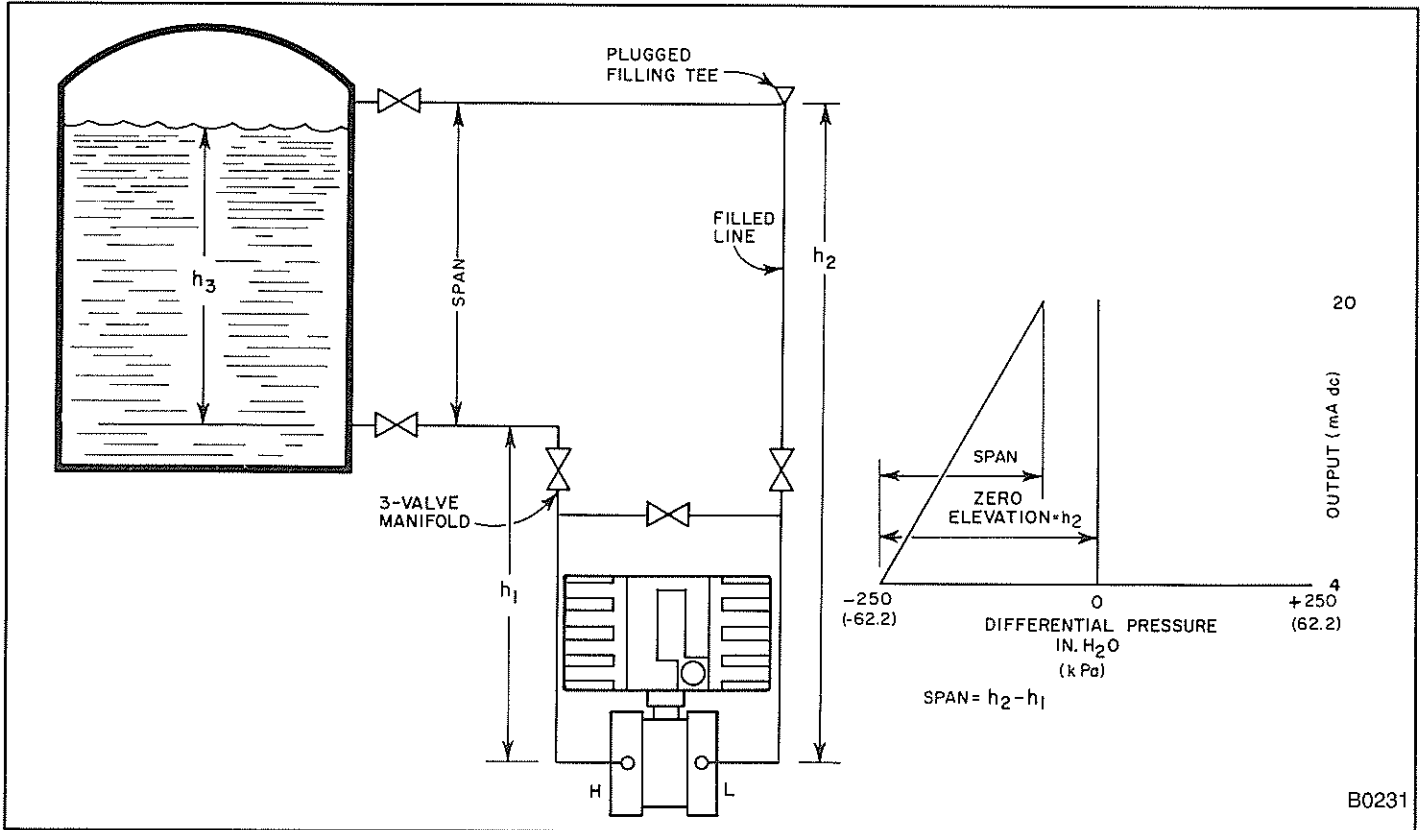
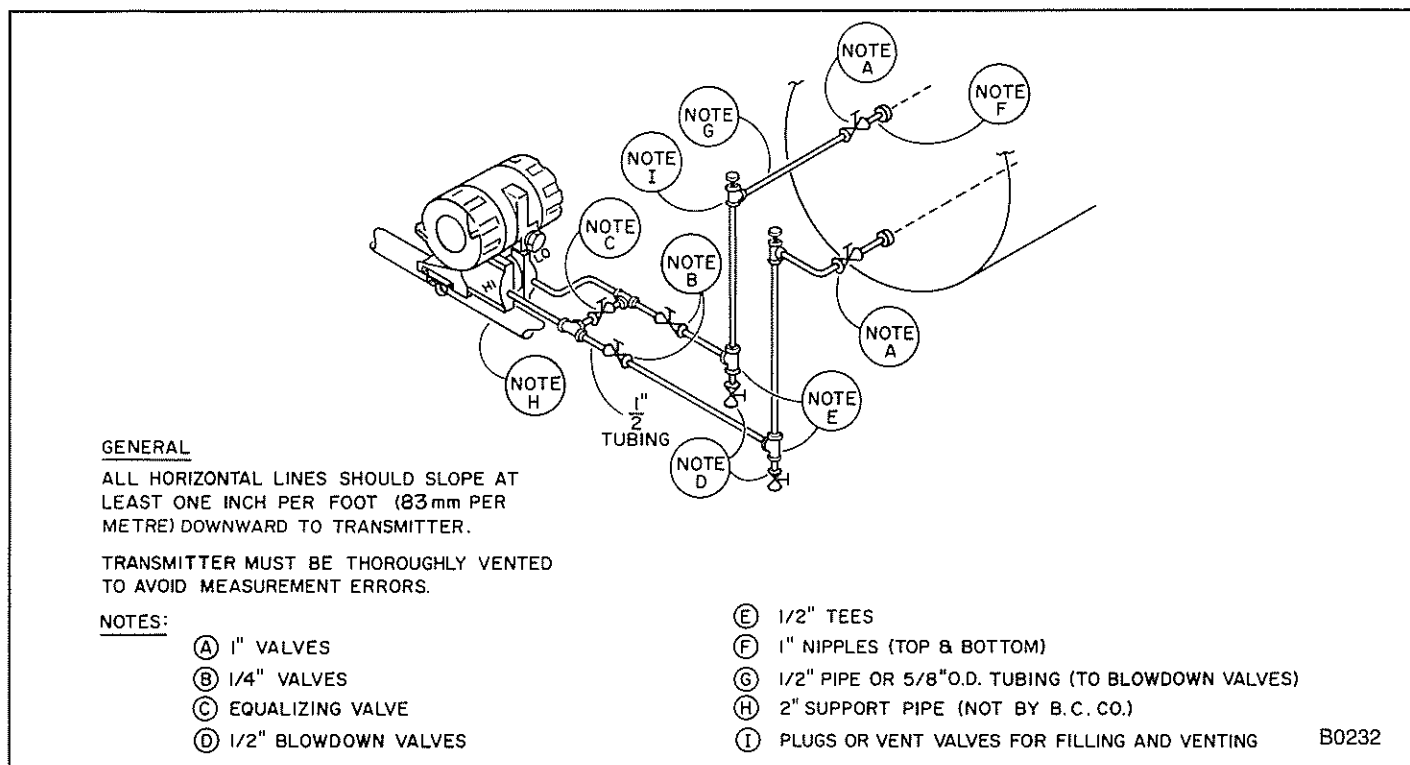

FIGURE 19 – Example of Closed Tank, Condensing Atmosphere, Level Measurement
FIGURE 20 – Connecting Piping for Closed Tank, Condensing Atmosphere, Level Measurement
at the high (H) side connection. If  $h_3$  is the level of the water at any point between minimum and maximum level range values, the transmitter senses the difference in pressure between the fixed head at  $h_2$  and the variable head at  $h_3$  (Figure 19). As the level of  $h_3$  increases, the difference between  $h_2$  and  $h_3$  decreases. Transmitter output decreases with increasing level and decreasing differential pressure. The effect is that of a negative differential pressure which decreases in numerical value as the level rises. This negative differential is simulated for calibration purposes by a positive pressure, increasing in value, imposed on the transmitter low side pressure connection. Therefore, the transmitter may be considered reverse acting, but only with respect to the positive pressure used in calibration. Refer to Figure 20 for typical piping arrangements.